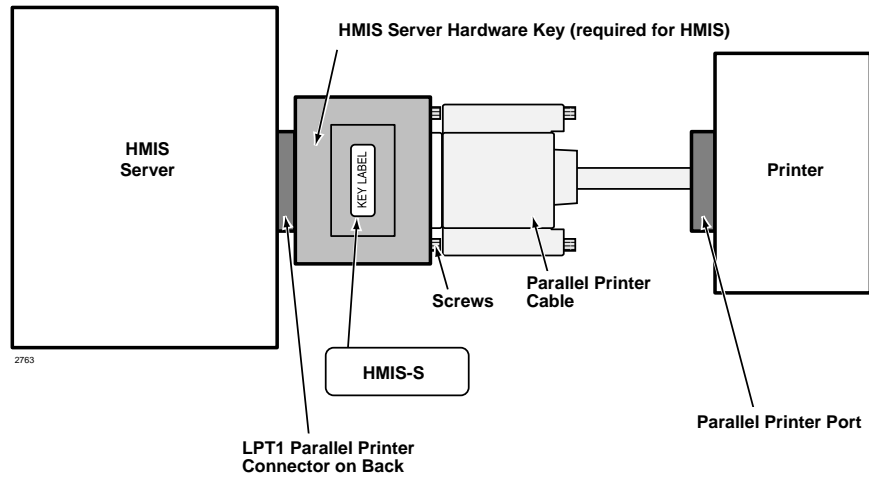

Figure 15-8 HMIS Server PC Hardware Key
- Install the correct HMIS hardware key on the LPT1 parallel printer port of the HMIS server (see Figure 15-8).